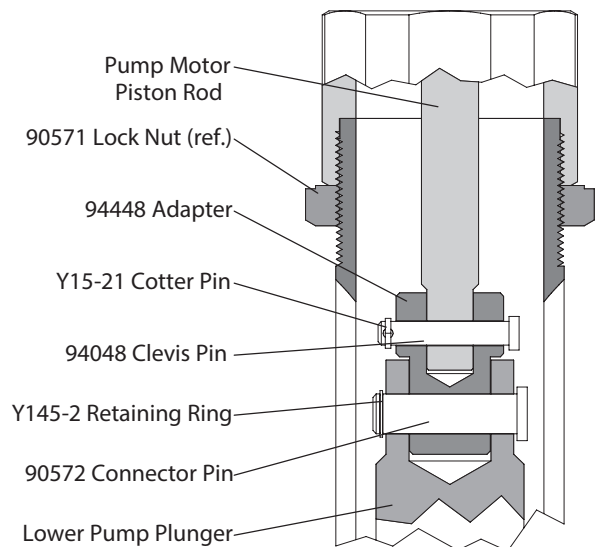

Figure 2
1. Loosen (90571) lock nut and unscrew entire pump from the air motor. This will expose (94448) adapter (see figure 2).